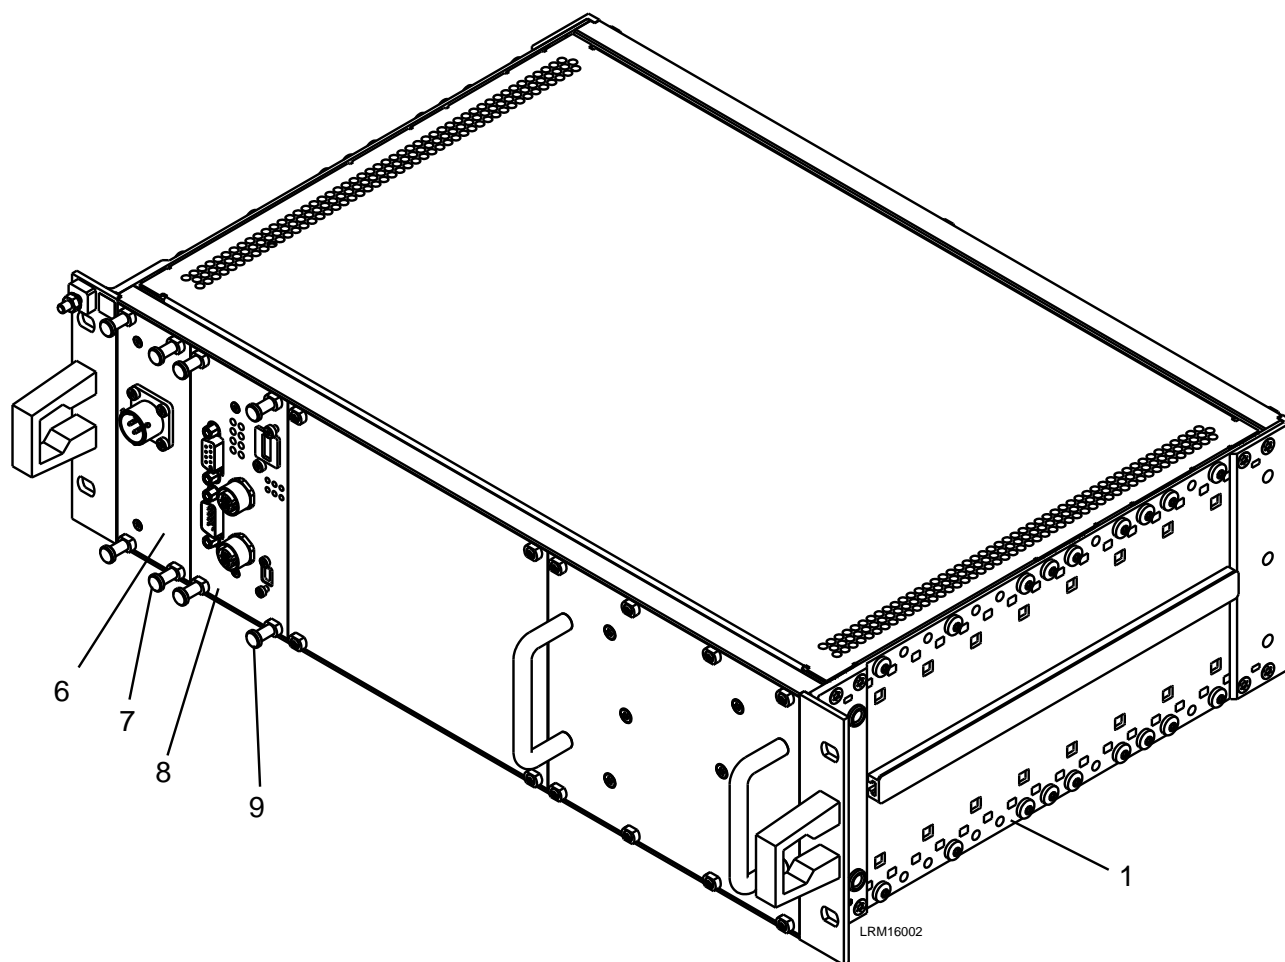
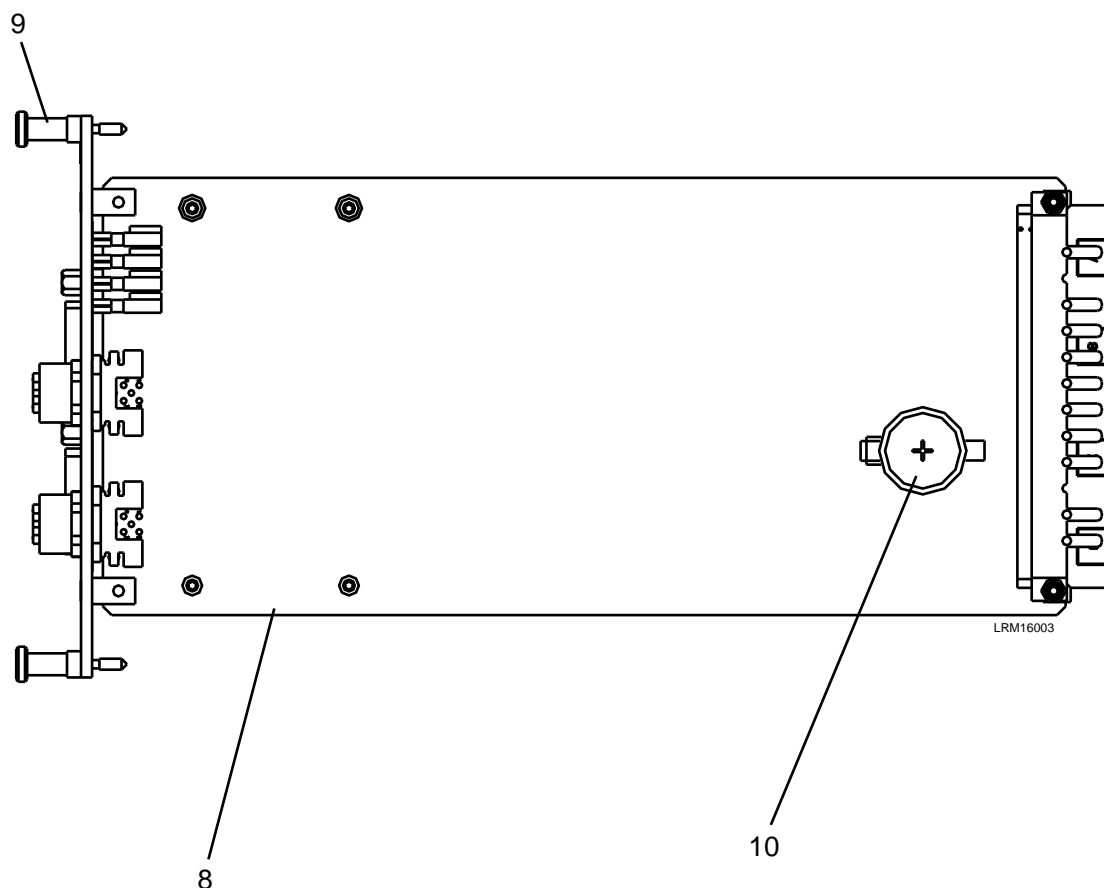

Figure 7-2: Event Recorder Equipment
Figure 7-3: Real Time Clock (RTC) Battery
1. Unscrew the four screws (7) from PWR module (6). See Figure 7-2.
2. Gently pull the PWR module (6) straight out from the Event Recorder Rack (1) unit to release the PCB from the backplane.
3. Place the PWR module (6) in an electrostatic-free bag.
1. Unscrew four screws (9) from CPU module (8). See Figure 7-2.
2. Gently pull the CPU module (8) straight out from the Event Recorder Rack (1) to release the PCB from the backplane.
3. Place the CPU module (8) in an electrostatic-free bag.
1. Remove the CPU module (8) using the steps from Section 7.2.3.
2. Gently remove the battery from the holder (10). See Figure 7-3.
1. Remove the PWR module (6) from the electrostatic-free bag.
2. Gently push the PWR module (6) straight into the Event Recorder Rack (1) unit to seat the PCB into the backplane.
3. Screw the four screws (7) to secure the PWR module (6). See Figure 7-2.
1. Remove the CPU module (8) from the electrostatic-free bag.
2. Gently push the CPU module (8) straight into the Event Recorder Rack (1) to seat the PCB into the backplane.
3. Screw four screws (9) to secure the CPU module (8). See Figure 7-2.
1. Insert the new battery (10) into the battery holder and confirm retention and orientation. See Figure 7-3. The battery is a CR 2032 Lithium 3 V battery.
2. Gently push the CPU module (8) straight into the Event Recorder Rack (1) to seat the PCB into the backplane. Use caution to ensure that the EMI seals on the sides of the card face plate are not distorted on insertion.